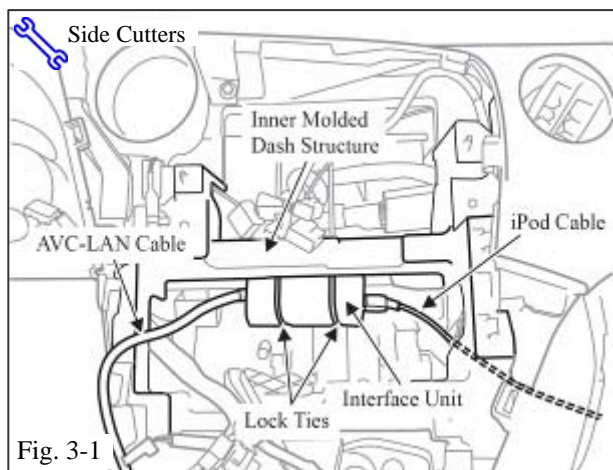

Fig. 3-1
- (d) Route the AVC-LAN cable through the lock ties. (Fig. 3-1 & 3-2)
- (e) Slide the interface unit through the lock ties. (Fig. 3-1 and 3-2)